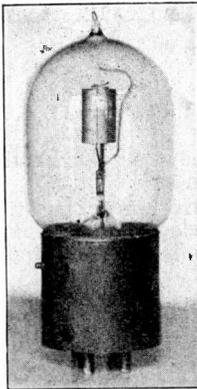

Fig. 67.—External View of an Audion Bulb.
2. By means of a slipping contact detector, which operates on practically the same principle as the tikker, except that it depends upon plate called a grid and a cylinder or plate of metal called the plate. The grid is placed between the filament and the plate. (See Figure 67.)